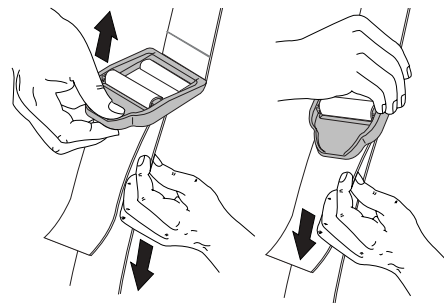

Fig. 6
4. Adjust length to fit the operator's size. Pull tab to lengthen, pull strap to shorten (Fig. 6).